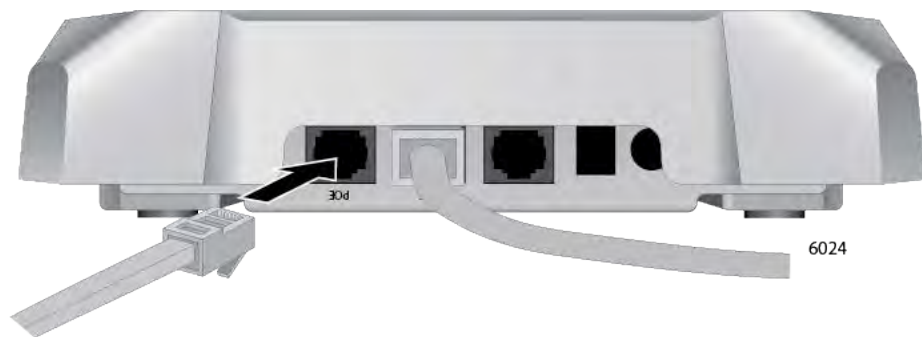

Figure 24. Connecting the Ethernet Cable to PORT2
3. To use PORT2 in the static LAG or Cascade mode, connect a second Ethernet cable to the port. See Figure 24.